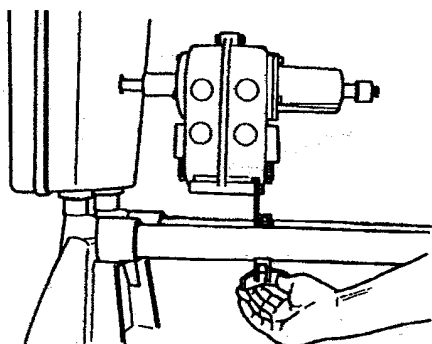

Fig.31
12. Secure the Speed Reducer's carriage clamp assembly (31) to the way tubes by tightening the wing nut, illustrated in Fig.31.